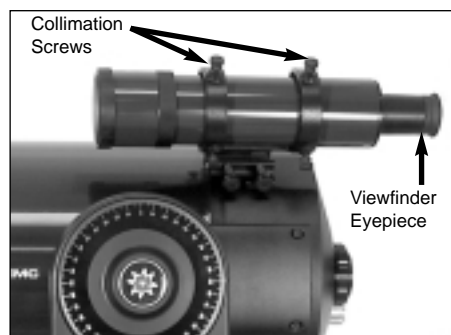

Fig. 6b: Viewfinder Assembly.
5. Look through the viewfinder eyepiece (Fig. 6b) and loosen or tighten, as appropriate, one or more of the viewfinder collimation screws (Fig. 6b) until the viewfinder crosshairs are precisely centered on the object you previously centered in the telescope eyepiece.